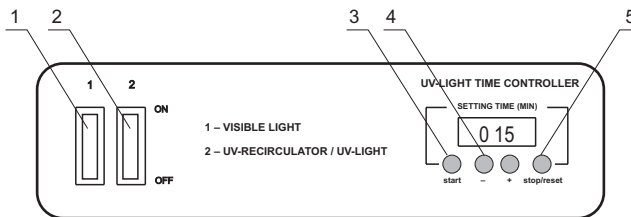

Fig.1. Control Panel
4.2.1 Turn ON *switch 2* (Fig.1/2), this automatically turns on the UV-recirculator with the hidden UV-lamp and activates the timer of open UV-lamp. The UV-recirculator will operate all the time until *switch 2* is turned OFF.
4.2.2 Use the timer keys **+** and **-** (Fig.1/4) to set the time of direct UV light exposition of the working place:
4.2.3 Press the key *Start* (Fig.1/3), the open UV lamp automatically will be turned ON and timer starts counting up the exposition time. Timer indicator shows actual time: till 1 hour - in minutes and seconds (min:sec), after 1 hour - in hours and minutes (hh:mm).
Note! The open UV-lamp can be switched off immediately by pressing *Stop/Reset* key (Fig.1/5). The set time of exposition is preserved in the memory. (The set time won't be preserved after the complete switching off the UV-cleaner box).
- 4.3.1. Turn ON *switch 1* (Fig.1/1) for lighting of the working place (this turns ON the white lamp).